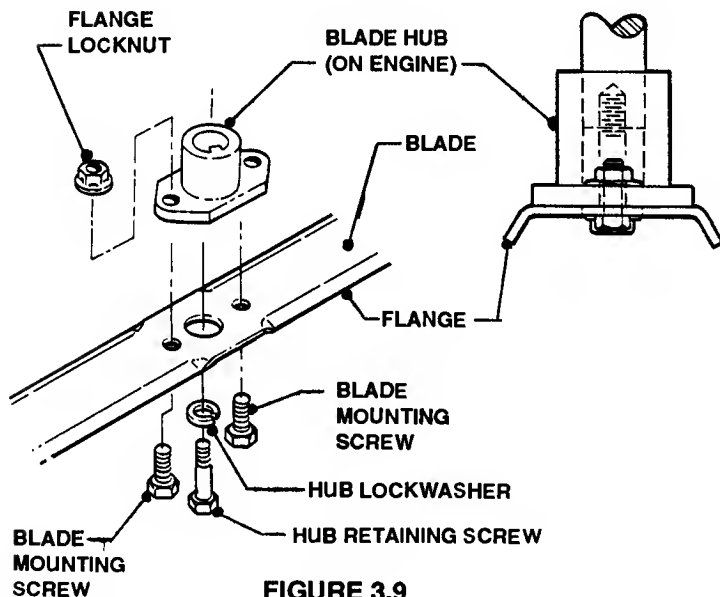

FIGURE 3.9
- Reinstall sharpened blade and components as shown in Figure 3.9.